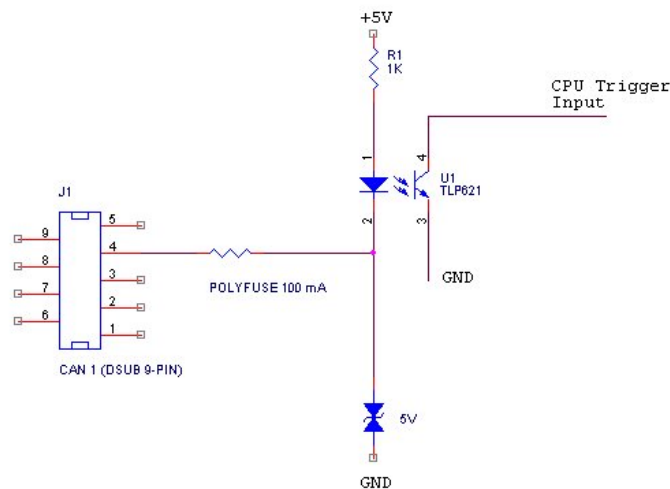

Figure 6: The trigger input inside the Kvaser Memorator Professional.
- Connect a switch from pin 4 on CAN channel 1 to ground, which can be found on pin 3 on the same connector. See Figure 6 on Page 17.